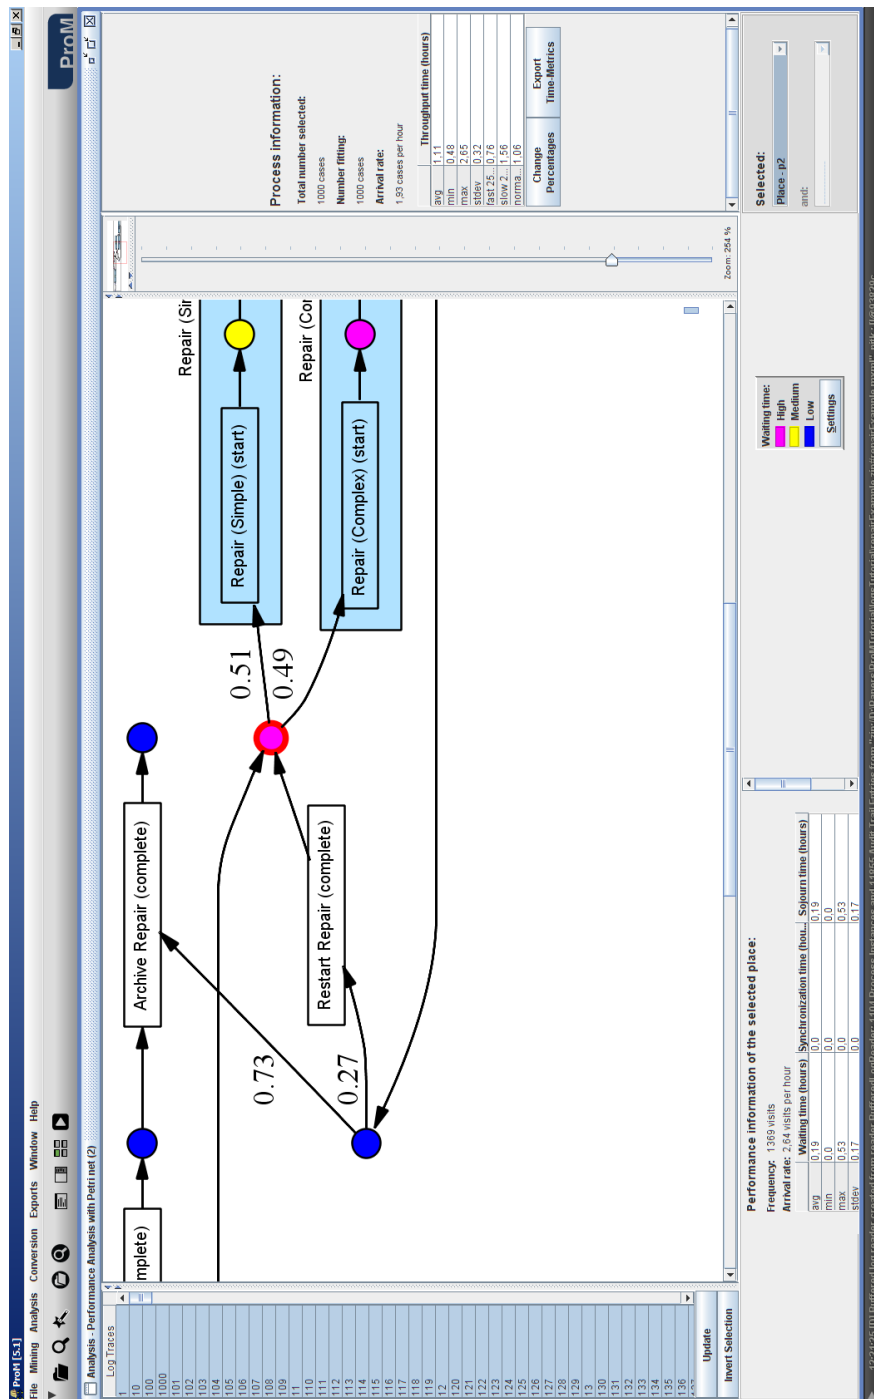

Figure 4.3: Screenshot of the analysis plug-in Performance Analysis with Petri net.
4. Set the field *Times measured in* to “hours” and click on the button *Start analysis*. The plug-in will start replaying and log and computing the time-related values. When it is ready, you should see a screen like the one in Figure 4.3.
The previous procedure showed how to answer all the questions listed in the beginning of this section, except for one: *Which paths take too much time on average? How many cases follow these routings? What are the critical sub-paths for these routes?* To answer this last question, we have to use the analysis plug-in *Performance Sequence Diagram Analysis* (cf. Section 3.2) in combination with the *Performance Analysis with Petri net*. In the context of our example, since the results in Figure 4.3 indicate that the cases take on average *1.11 hours* to be completed, it would be interesting to analyze what happens for the cases that take longer than that. The procedure to do so has the following steps: